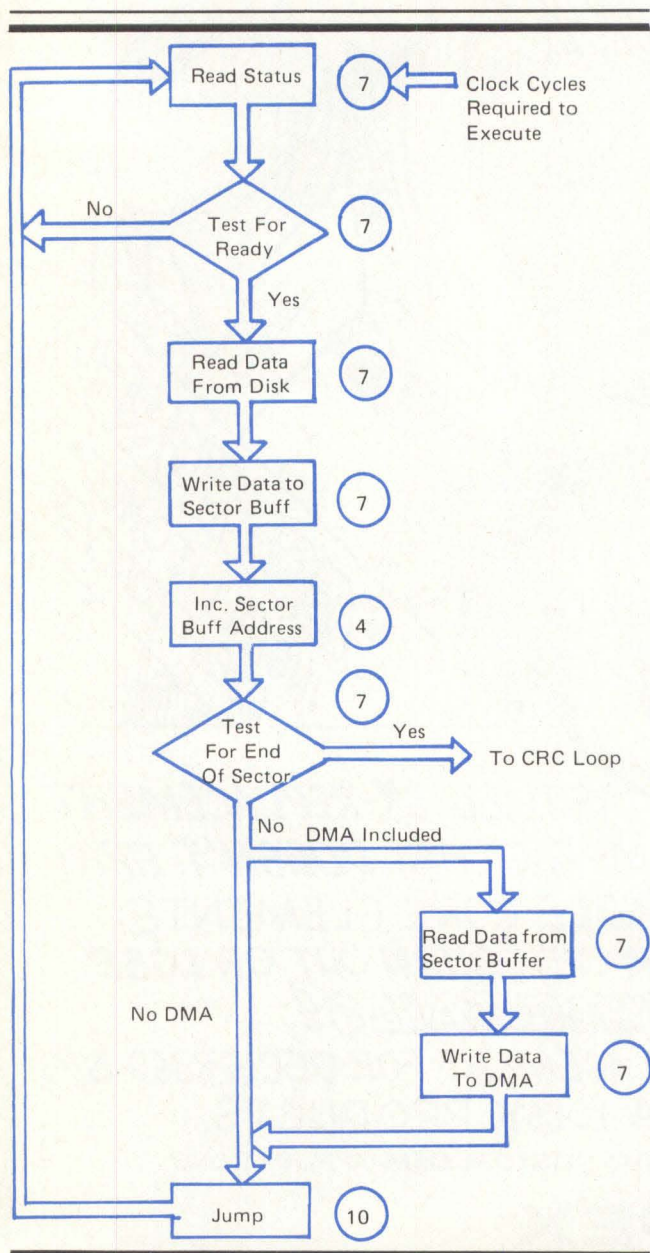

Fig 2 Program loop shows the steps taken by a MOS microprocessor-based FDC in reading data from a disk.
**MOS Microprocessor.** When designing a double-density FDC with an MOS microprocessor, you must begin by carefully choosing the microprocessor for speed and then using some additional MSI devices. The flow chart in Fig 2 shows some of the difficulty in choosing a MOS microprocessor. In transferring data from the disk to the sector buffer, the basic steps include reading and testing the status, reading the data from the disk, writing the data into the sector buffer, incrementing the address preparatory to the next sector buffer access, and testing the address for the end of the sector. If the sector is incomplete, the next byte is read from the disk.